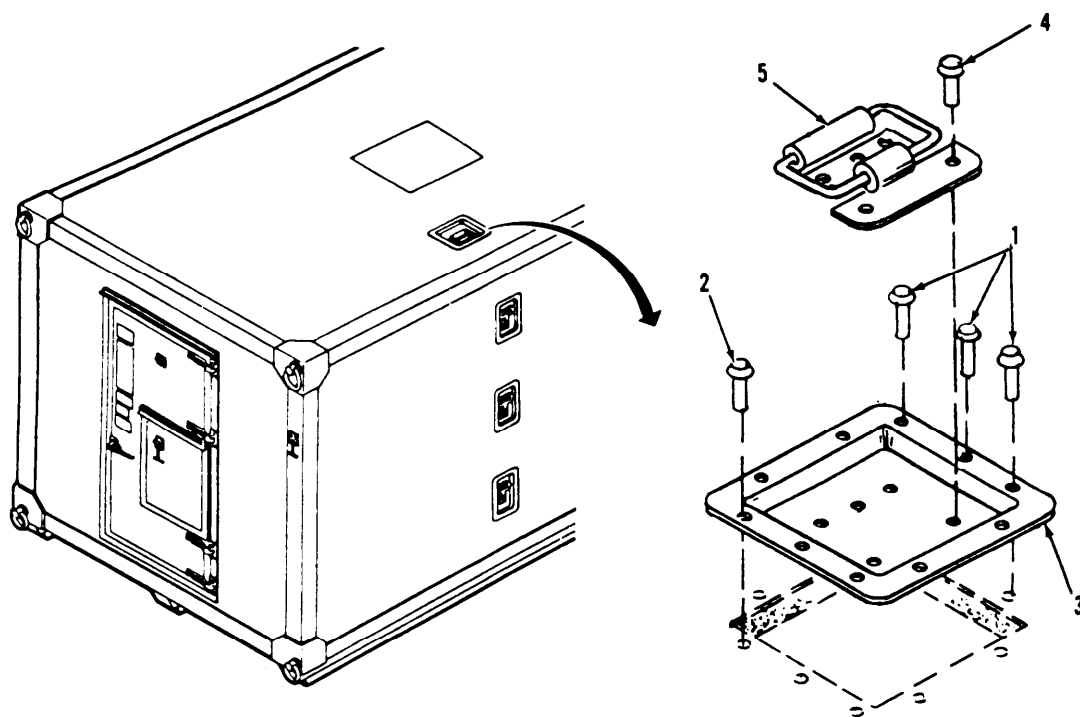

Figure 3-12. Hand Hold Replacement.
a. Inspect. (Figure 3-12)
- (1) Inspect for damaged or non-functioning bail handle (5).
- (2) Inspector missing blind rivets (1, 2, and 4).